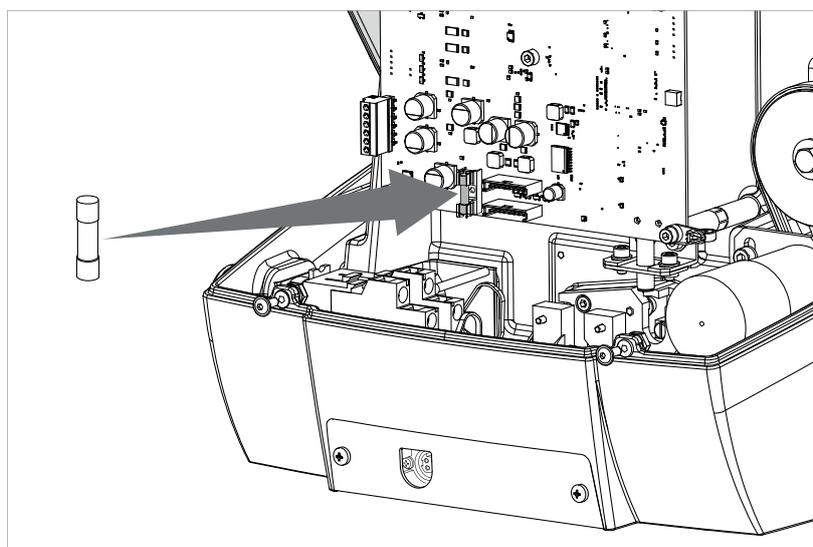

Fig. 46
- 3) Remove the fuse from its seat (Fig. 46) and replace if necessary.